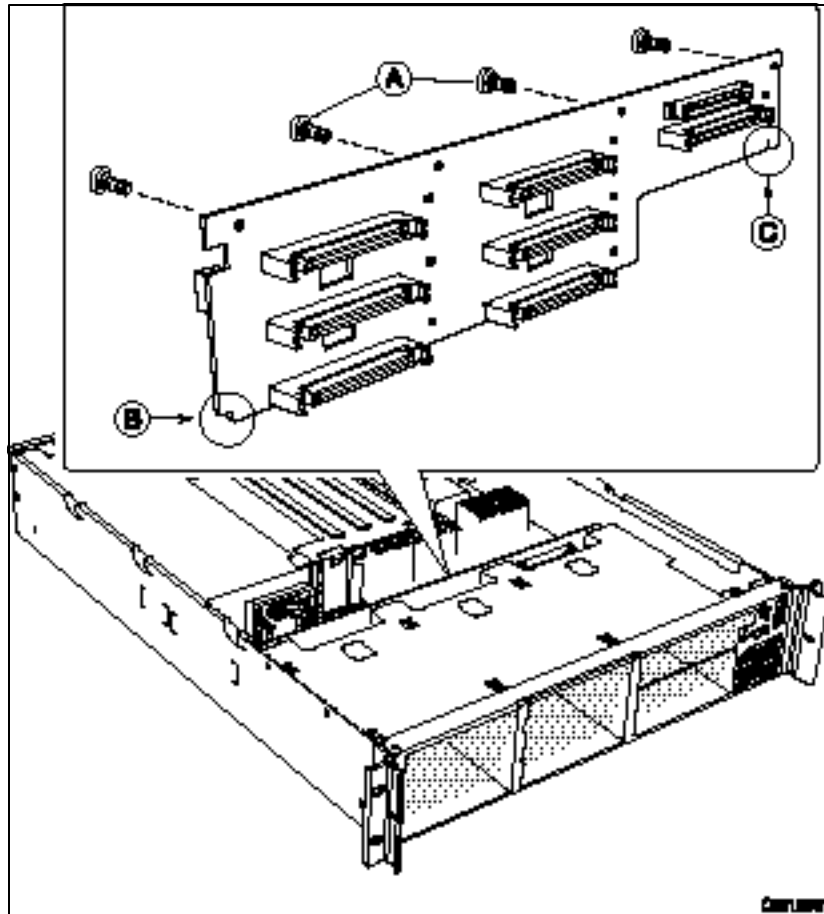

Figure 39. Replacing a Backplane Board
7. Remove the four mounting screws (Figure 39, A) along the top of the board and lift it out of the chassis.
8. Lower the replacement backplane board into the chassis, inserting the lower corners (B) and (C) into their slotted chassis tabs.